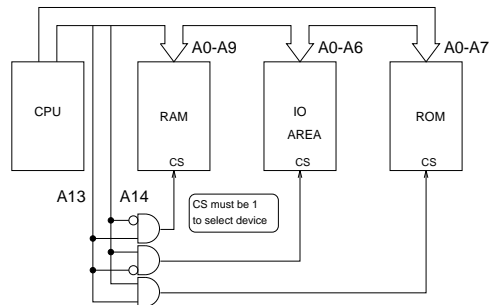

Figure 1: Memory and memory-mapped I/O devices
- (b) Figure 1 shows a CPU with a 16-bit address bus to which are attached three different memory units, one ROM, one RAM and one memory area devoted to i/o. The diagram shows the range of address lines entering each device, and the address lines used to distinguish and select each unit.